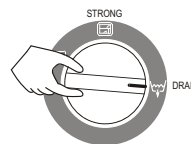

Figure 4
5. After washing, set the "WASH SELECTOR" at "DRAIN". (Figure 4).